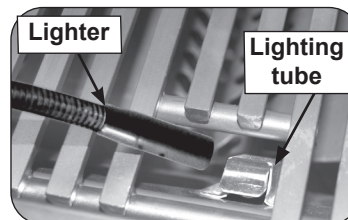

Fig. 33-2 Manual lighting via lighting tube
2. Insert either a burning long-barrel butane lighter or a burning long-stem match through the cooking grid opening to the top of the lighting tube (see Fig. 33-2). For backburners or infrared burners, hold the flame against the surface of the backburner/infrared burner. For side burners, hold the flame against the burner.